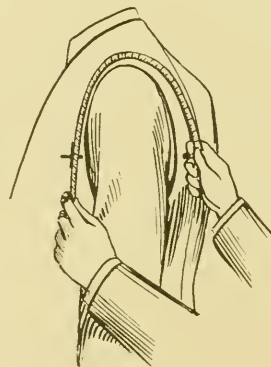

FIG. 7
12. **The Over-Shoulder Measure.**—Keep the tape-line in position in front, and with the right hand move it to the center of shoulder, and bring it in a straight line over the shoulder to the mark at depth of scye in the center of back. (See Fig. 7.) This is called the Over-Shoulder, or Second-Over, measure, and should be 17 inches (deducting the 10 inches, if starting from 10 inches).